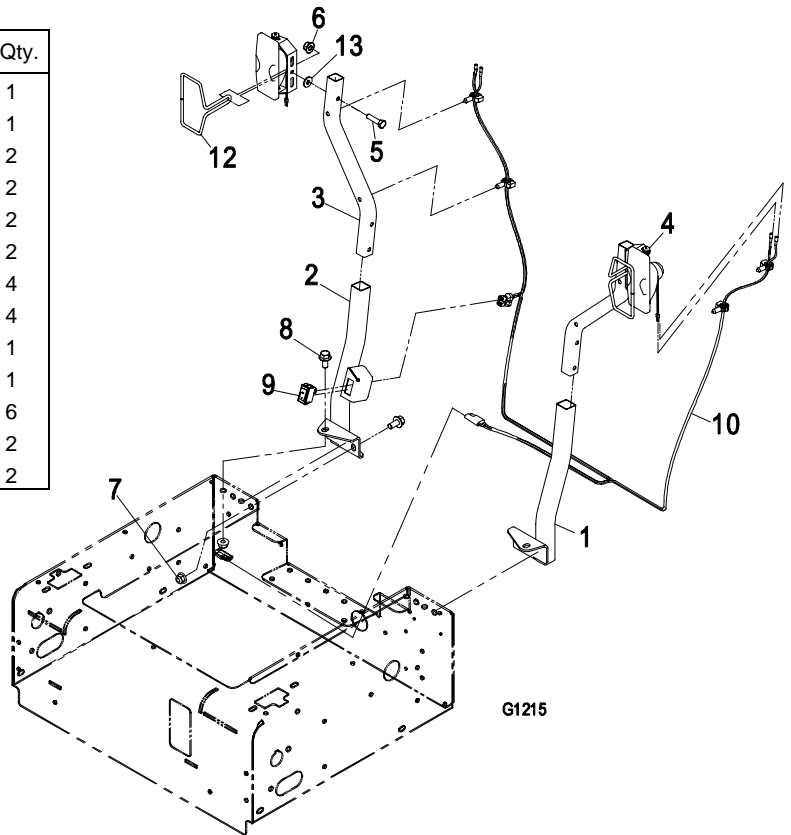

FIGURE 1
(Refer to Figure 1 for all item callouts and hardware)
1. Position the RH mount bracket (item 2) on the seat box frame and secure with (2) 3/8-16 x 3/4 screws (item 8) and (2) 3/8-16 nyloc nuts (item 7) as shown in Figure 1.
2. Insert light mount tube (item 3) into the RH mount bracket (item 2). If the mount tube does not slide into the mount bracket, file the inside of the mount bracket and reinsert tube.
3. Position and mount the guard (item 12) and light (item 4) to the light mount tube (item 3) using (1) 1/4-20 x 1 1/4 screw (item 5), (1) washer (item 13), and (1) 1/4-20 nyloc nut (item 6). Rotate the light adjustment bracket left or right to ensure leads on light are facing straight down.
4. Repeat steps 1 through 3 for LH side using items 1, 3, 4, 5, 6, 7, 8, 12, and 13.
1. On both sides of the machine, route the harness up the light mount brackets and insert harness clips into mount holes on brackets as shown in Figure 1. Be sure the connectors are fully inserted on to the terminals.